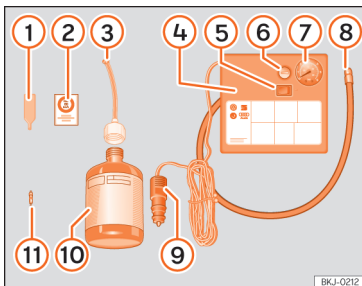

Fig. 224 Standard display: contents of the anti-puncture kit.
The anti-puncture kit is located underneath the floor covering in the luggage compartment. Includes the following components >>> Fig. 224:
- Unscrew the tyre valve cap and insert. Use the device >>> Fig. 224 ① to remove the valve cap. Place it on a clean surface.
- Shake the tyre sealant bottle vigorously >>> Fig. 224 ⑩.
- Screw the tyre inflation hose >>> Fig. 224 ③ into the tyre sealant bottle. The bottle's seal will break automatically.
- Remove the filler cap >>> Fig. 224 ③ and screw the open end of the tube into the tyre valve.
- Replace the howitzer with the device >>> Fig. 224 ① onto the tyre valve.
- Screw the tyre inflation tube of the compressor >>> Fig. 224 ⑧ on the tyre valve.
- Check that the air evacuation screw is closed >>> Fig. 224 ⑥.
- Attach the connector >>> Fig. 224 ⑨ to the vehicle's 12 volt power outlet >>> page 210.
- Switch on the air compressor with ON/OFF switch >>> Fig. 224 ⑤.
- Attach the sticker >>> Fig. 224 (2) to the instrument panel display, within the driver's field of vision.
Screw in the inflator tube >>> Fig. 224 (8) again and check the pressure on the gauge (7).